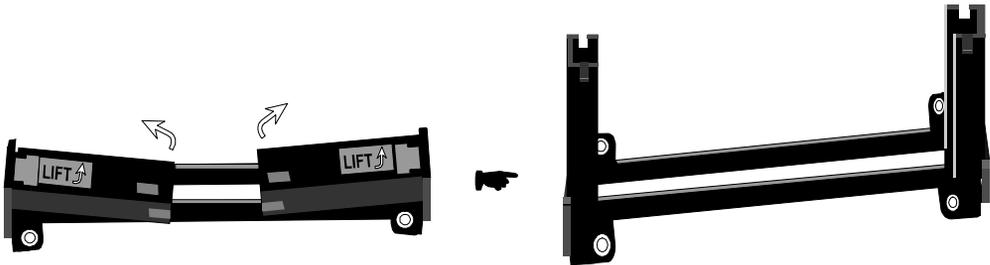

Figure 10
- 1 First, please refer to figure 10 below, and follow the direction to lift up the fixed foldable pentium® II Retention Mechanism. This pre-installed device is designed for you to install Pentium® II CPU more easier and to avoid any damage on the board due to overtightening the four screws.